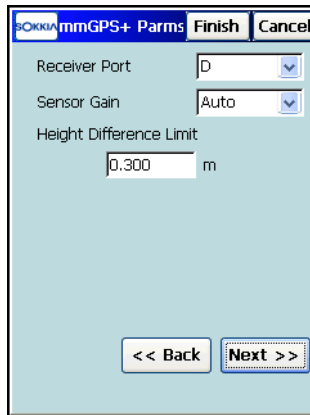

Figure 4-20. Configuration of mmGPS+ Parameters
10. For a mmGPS+ aided RTK survey, on the *mmGPS+ Params* screen, select options to use a mmGPS+ system (Figure 4-20 on page 4-16). For this configuration see “mmGPS+ Configuration” on page 4-25.